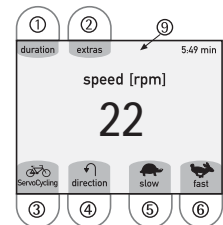

Fig. 9
5. **Cycling "actively" without motor:** After you've relaxed your muscles enough you can start to cycle actively with your own strength. Press the button "ServoCycling" ③ (see figure 9). Pedal yourself and the MOTOMed makes out your own activity. The display ⑨ gives you feedback showing a bicycle icon and the remark "you are cycling yourself". With the buttons "light" (small weight) ⑤ and "heavy" (large weight) ⑥ you can change gears according to your muscle strength (from gear 0 to 20). Please choose the appropriate gear that allows you to cycle without intense strain. It is recommended to cycle in the low gears for some time.